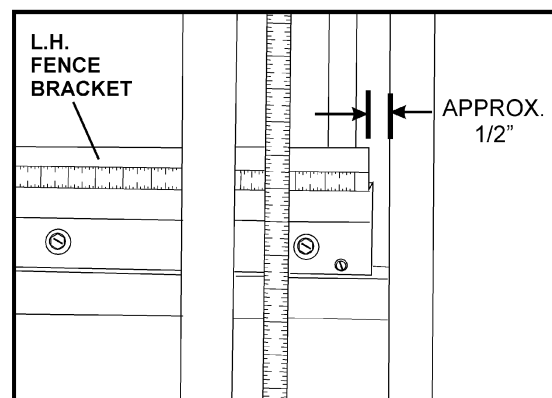

Figure 25
- Align the left side of the bracket with left end of the horizontal cross member. (Note: There should be approximately a 1/2" gap between the bracket and the right end of the horizontal cross member, as shown in Figure 25).